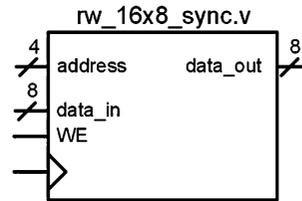

Fig. 10.5
10.3.2 Design a Verilog model for the 16×8 , synchronous, read/write memory system shown in Fig. 10.5. Create a test bench to simulate your model. Your test bench should first read from all of the address locations to verify they are uninitialized. Next, your test bench should write unique information to each of the address locations. Finally, your test bench should read from each address location to verify that the information that was written was stored and can be successfully retrieved.